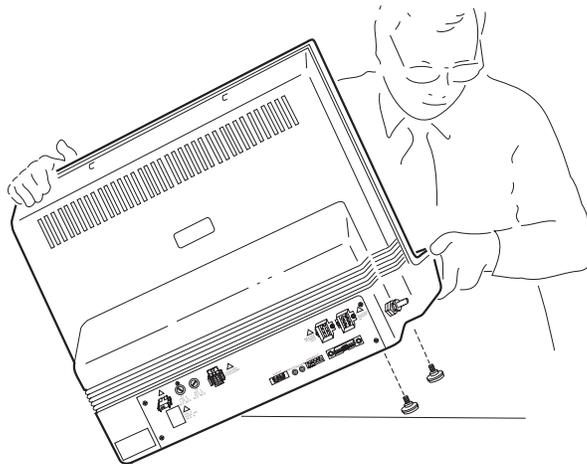

Figure 2.3 *Installing the Mounting Feet*
9. Have your assistant lift one side of the unit while you install two of the mounting feet (see Figure 2.3). Rotate the unit and install the two remaining mounting feet in the same manner.